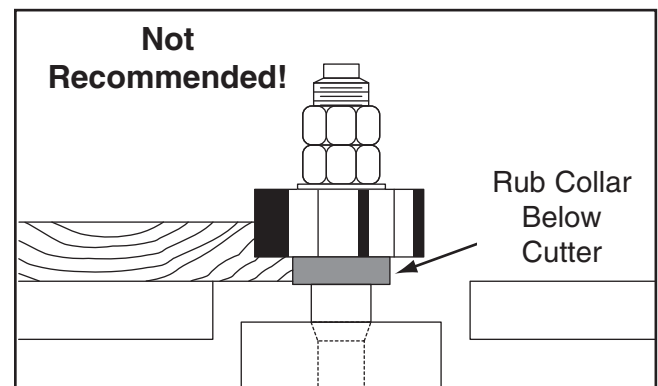

Figure 31. Cutting with rub collar below cutter.
1. **Rub collar below cutter:** When rub collar is placed below cutter (see **Figure 31**), cut progress can be observed. However, any unintentional movement may lift workpiece into cutter, damaging work and creating a dangerous situation. *We DO NOT recommend using rub collar in this position.*